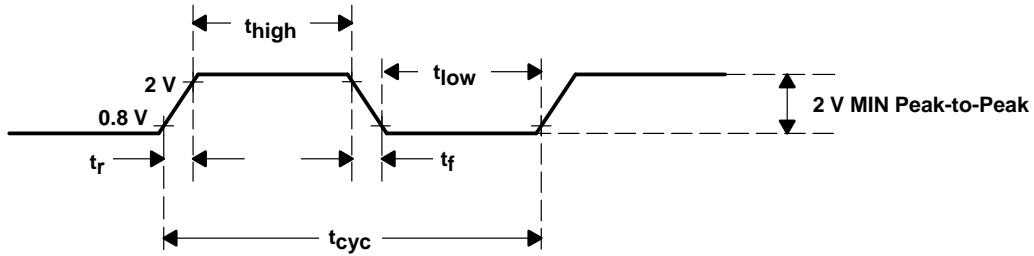
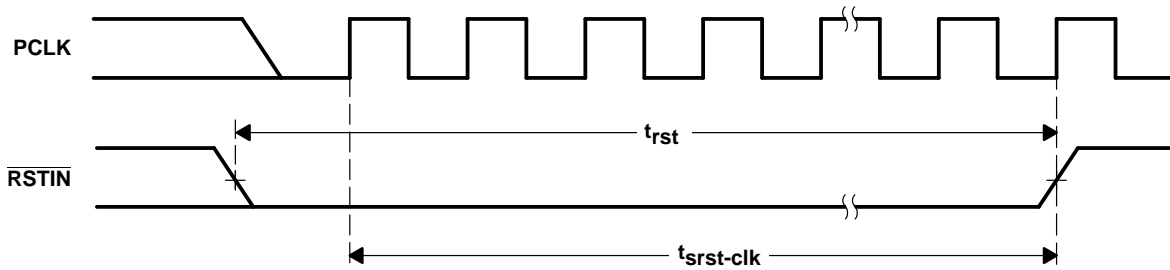

Figure 24. PCLK Timing Waveform
Figure 25.  $\overline{RSTIN}$  Timing Waveforms
**PCI clock/reset timing requirements over recommended ranges of supply voltage and operating free-air temperature (see Figure 24 and Figure 25)**